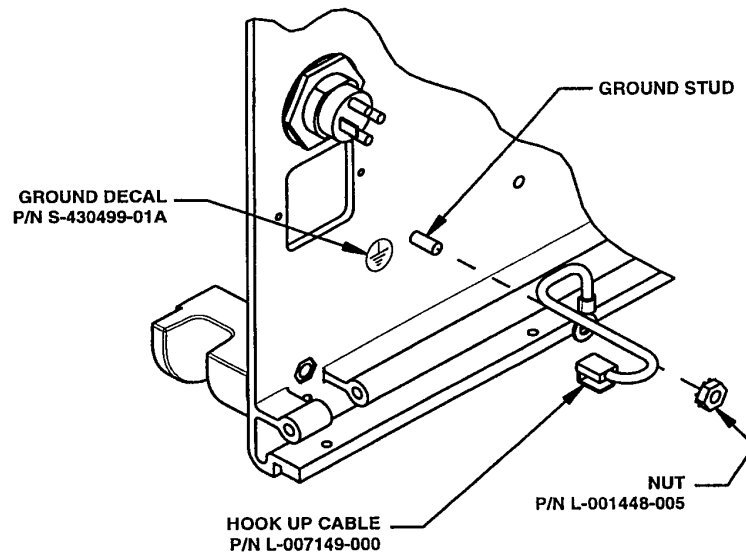

FIGURE 4-41.
1. Install the ring terminal (crimp side up) of the hookup cable (P/N L-007149-000) over the threaded ground stud located next to the AC inlet receptacle hole in the rear extrusion. Use an 8 in-lb torque driver with a 11/32-in socket to secure the ring terminal with a kep nut (P/N L-001448-005). See Figure 4-41.
2. Apply ground decal (P/N S-430499-01A) to the rear extrusion, noting its location and orientation. Figure 4-41.